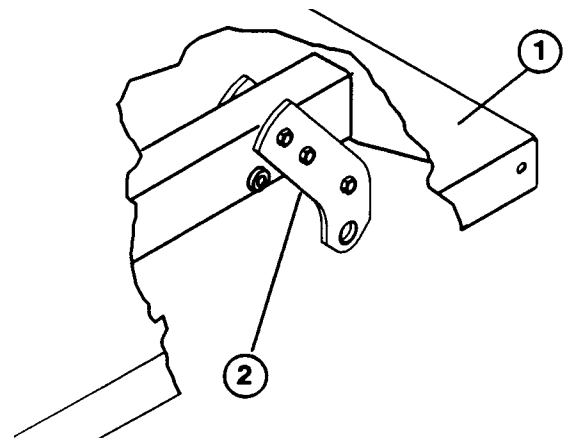
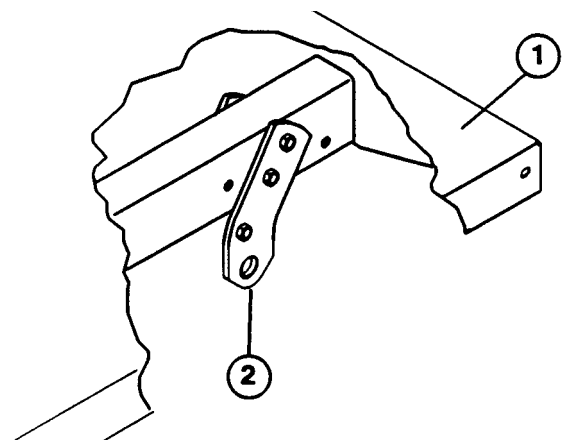

Figure 4
Figure 5
the holes shown in figure 4.
4. Mount each set of rear pivot plates to the right and left bed frame channels with the capscrews and locknuts previously removed. Position the brackets on the full bed as shown in figure 4, and for the 2/3 bed as shown in figure 5.
NOTE: On a Workman 3000 with a full flat bed, assure rear pivot plates are bolted to the bed frame/channel so that lower end angles to the rear (Fig. 4).